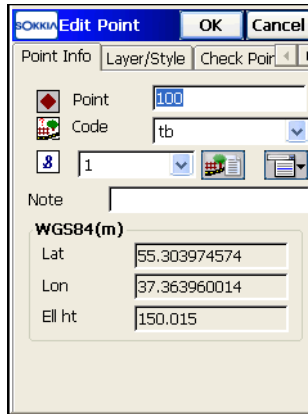

Figure 6-2. Enter New Point Information
2. On the *Point Info* tab, enter new information on the point: the name, code, and note if preferred (Figure 6-2).
3. To set the code and attributes available for the code chosen, tap the *Attributes List* icon  (Figure 6-2).